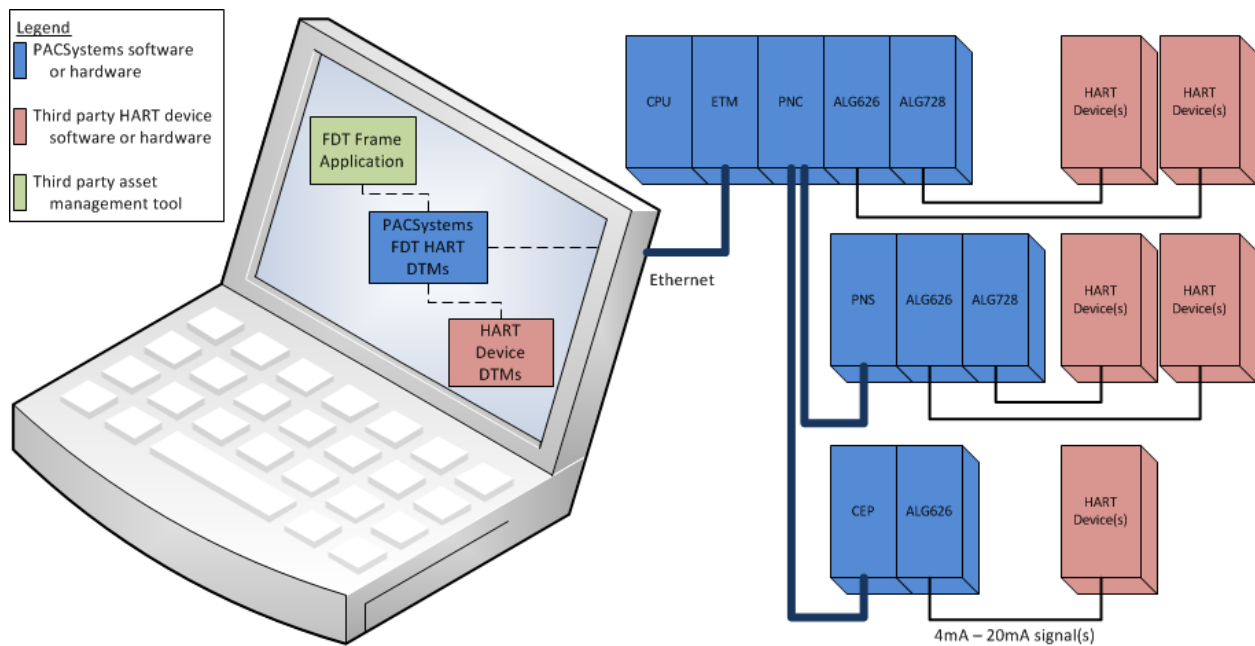

Figure 1: HART Pass Through Showing HART DTMs
Both technologies support HART devices connected to analog IO modules with HART support. As illustrated in Figure 1, the analog I/O modules may be located in one of the following:
- The PACSystems FDT HART DTMs are installed whenever the HART devices will be configured and monitored using an FDT Frame Application such as GE Device Manager Essentials™ or another FDT-compatible asset management application, as shown in Figure 1.